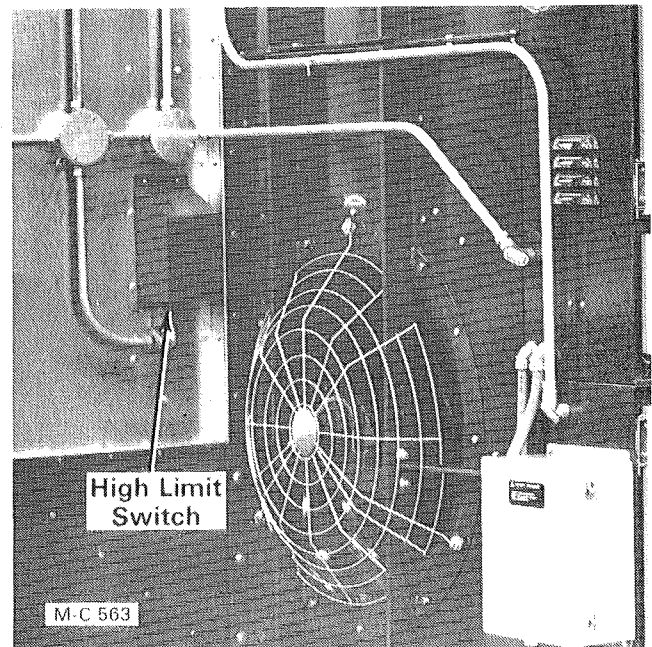

Figure 7
6. The "POWER", "HIGH LIMIT" and "LEVEL AUGER" lights on the control panel will be ON. If the "HIGH LIMIT" light(s) are not on, push the reset button on the high limit switch. The high limit switch(es) are on the right front end panel, see Figure 7.